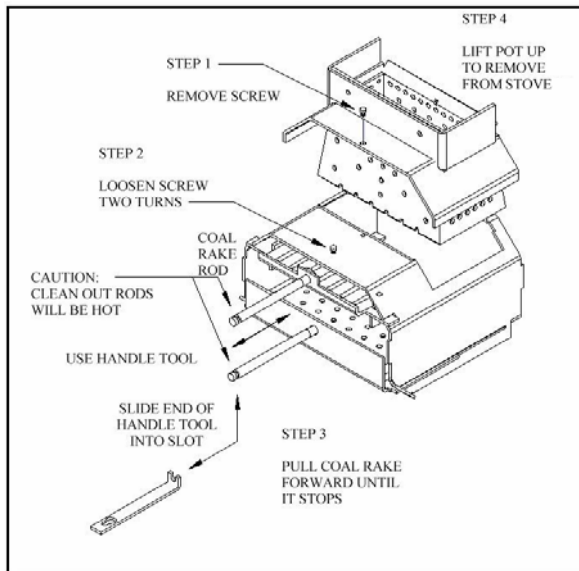

Figure 9
1. **The coal Rake.** The first step is to push the coal rake in and shave the burning coals and corn off the top of the clinker. Once this is done open the door and add a ¼ cup of pellets on top of the coals (*See figure 7 below*). To push in the Coal rake, use the Rod Handle tool shown in figure 9 on page 16.
3. **The slide out bottom.** (*See figure 8 on page 15*) Now you are ready to drop the clinker from the burn pot. Pull the bottom out in one quick motion and let the clinker drop into the ash pan. Quickly push the bottom in again. To pull out the slide bottom use the Rod Handle tool shown in figure 9 on page 16 (see point 2 at the top of page 16).
6. Cleaning the Heat exchange tubes. Now you can pull the tube scraper back and forth a couple of times to keep the tubes clean. If the Tube Scraper feels sticky and difficult to move, check for the presence of creosote on the tubes. If creosote is present a damper adjustment may be needed or the Stove has become plugged and needs a thorough cleaning. Call Dealer for assistance. To pull the tube scraper back and forth use the Rod Handle tool shown in Fig. 9 on page 16.
2. **Burnpot and Slide-Out Bottom.** Clean burn grate holes whenever needed. Remove the Burnpot and use a small metal object (Nail, Drill Bit, etc) to clean out plugged holes. (See Figure 9 & 10)